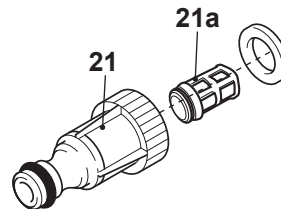

Fig. 26
1. Unscrew and remove the water inlet hose adaptor (21) from the water inlet (6).
2. Disassemble the water inlet hose adaptor (21) (Fig. 26).